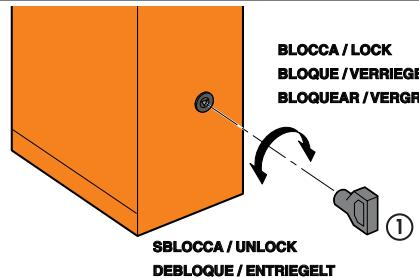

fig. 13
- Fit the standard triangular key (Fig.13) in the lock and turn it **anti-clockwise** through 1 turn.